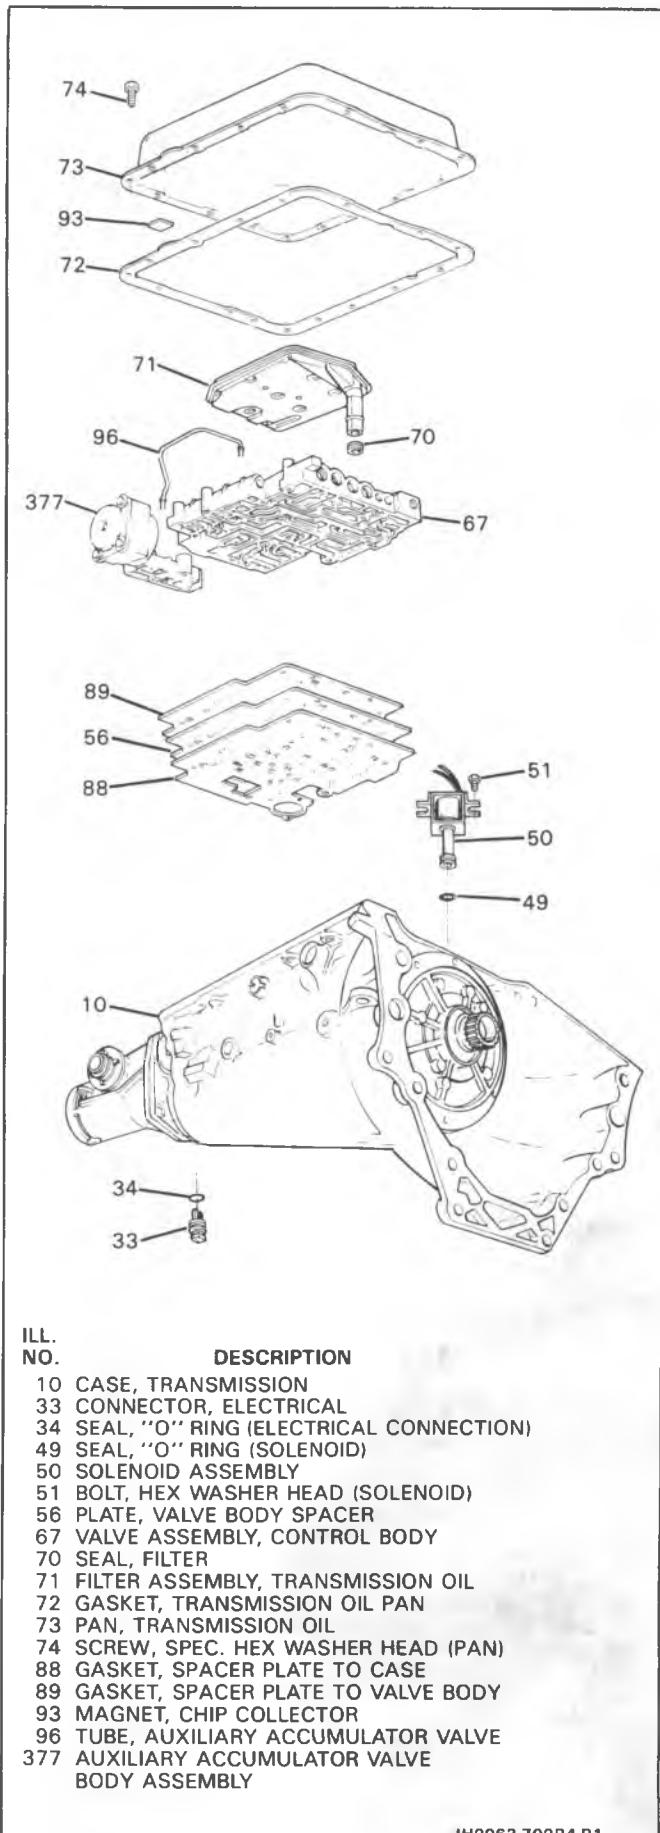

Figure 10 Case and Attaching Parts
**Remove or Disconnect (Figures 10, 11)**